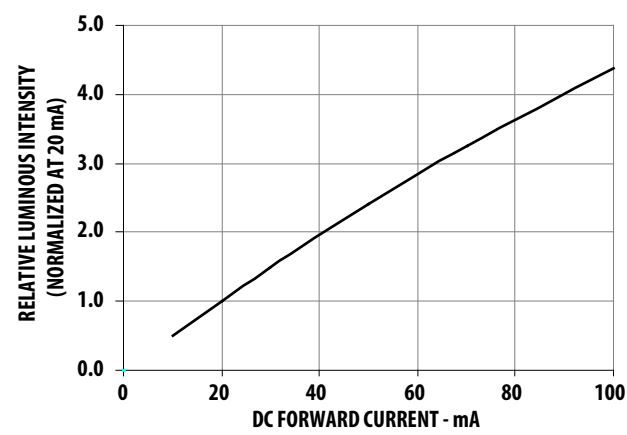

Figure 4: Maximum Forward Current vs. Ambient Temperature
a. Derate linearly as shown in Figure 4.